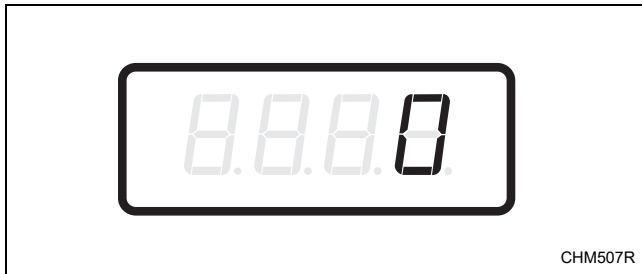

Figure 8
2. When "SA11" appears in the display, press the START (enter) keypad. There are five digits in the Special Vend A Heat Price. The fifth digit will appear in the display and will flash one second on and one second off. Refer to *Figure 8*.